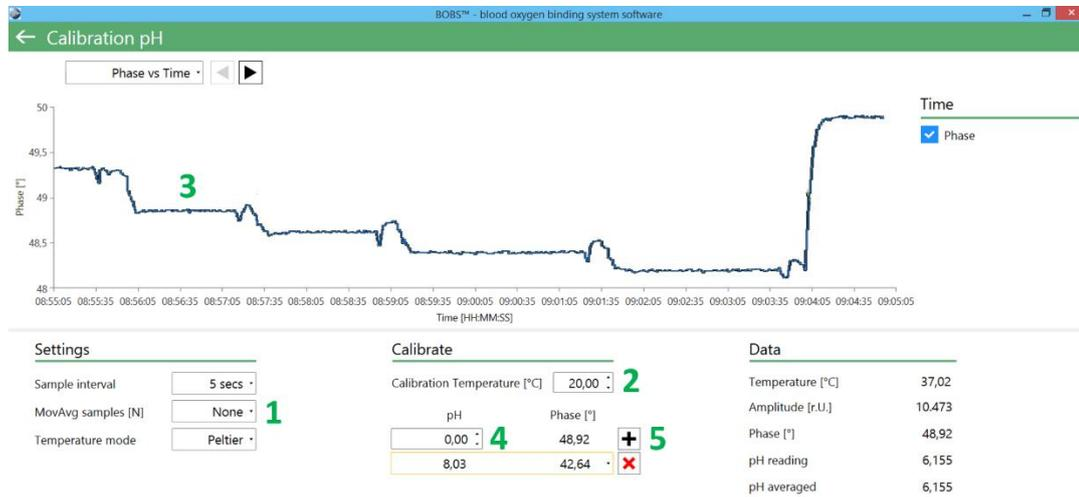

Figure 16: pH calibration
4. Under `Settings` set the sampling interval and the number of samples to be averaged (1, Figure 16). Larger sampling intervals will reduce bleaching and thus increase lifetime of your pH sensor.
5. Set the calibration temperature (2, Figure 16).
9. Wait for about 3 minutes until the measured phase angle is stable (3, Figure 16).
10. Enter the pH value of buffer 1 (4, Figure 16) and press the + button.